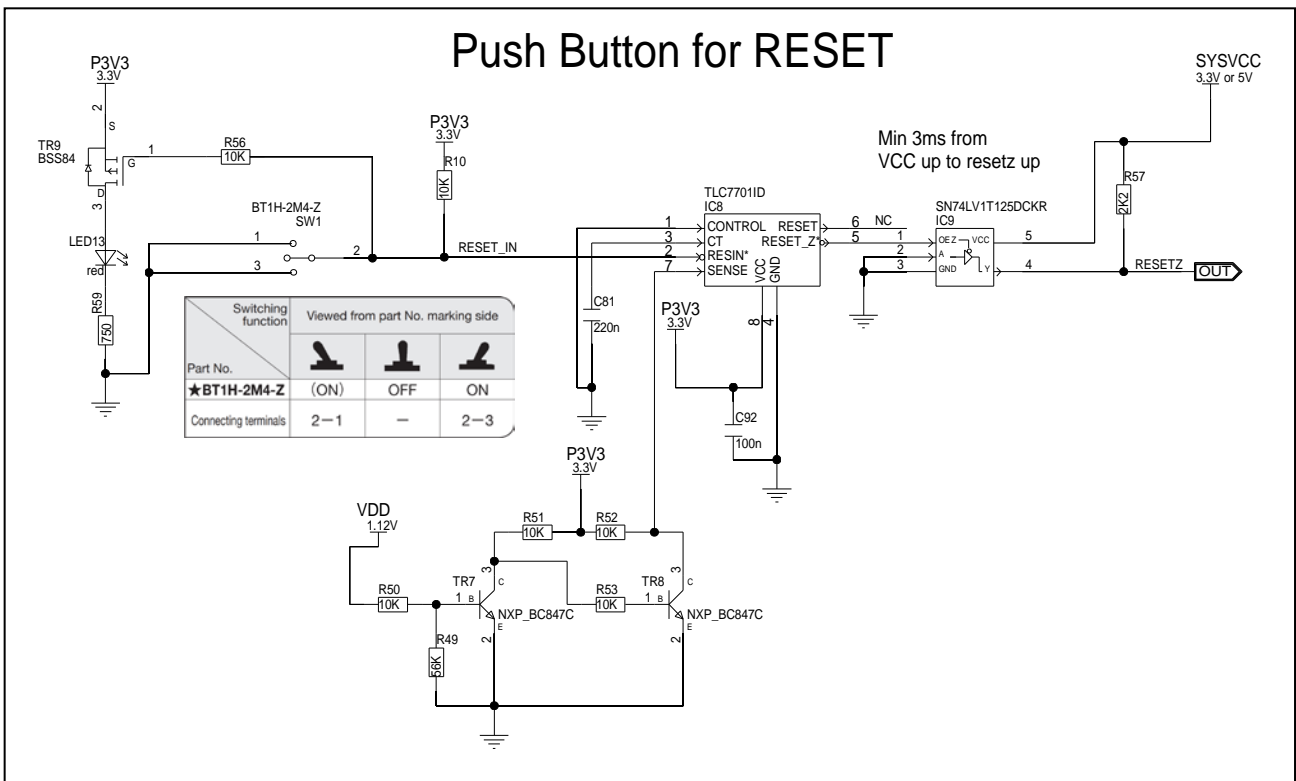

Figure 6.2 Reset circuit
*Figure 6.2* shows the complete RESET circuit.